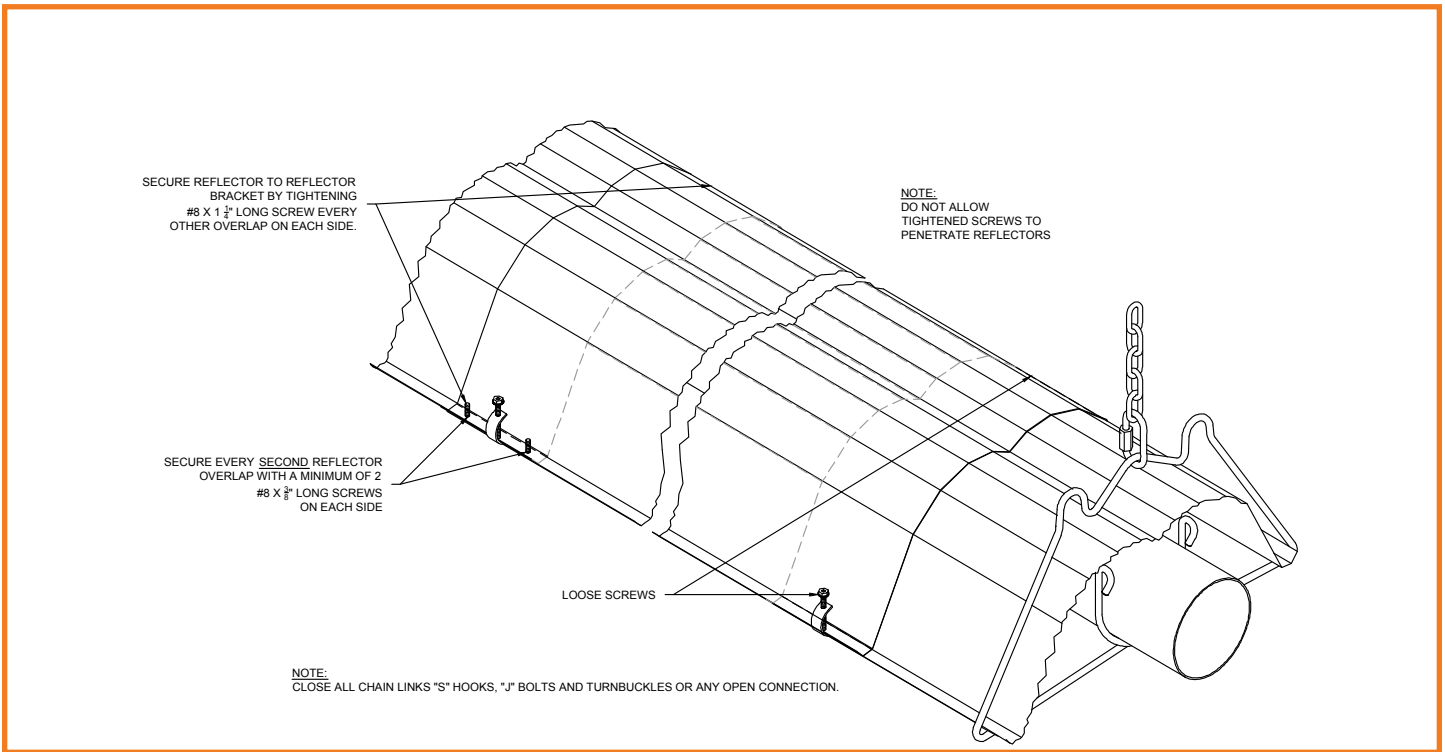

Figure 17: Reflector Supports Installation and Reflector Overlay Bracket Installation
- Secure every second reflector overlap together with a minimum of 2 - #8 x 3/8" inch long screws (not supplied), and secure reflector to the reflector bracket at this point by tightening down #8 x 1 1/4" screws supplied with reflector brackets (Figure 17). The remaining reflector overlap joints and reflector brackets are left loose to accommodate system movement.